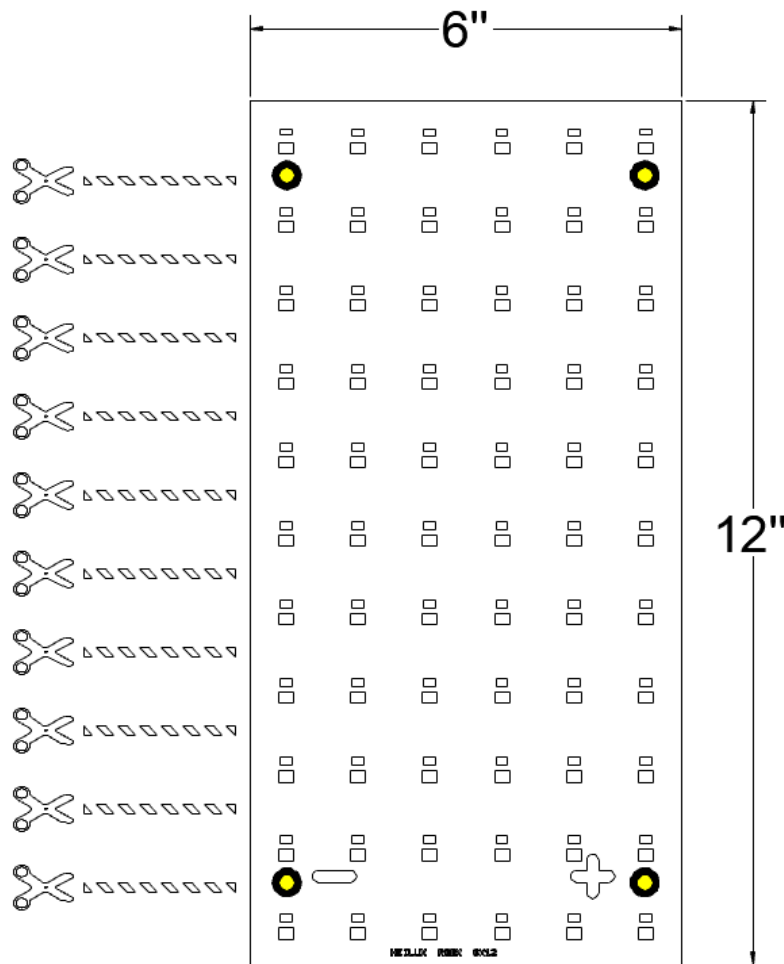

Figure 6 – LumaFilm RGBW Trimming Locations
- The 6" width is not trimmable. See Figure 6.